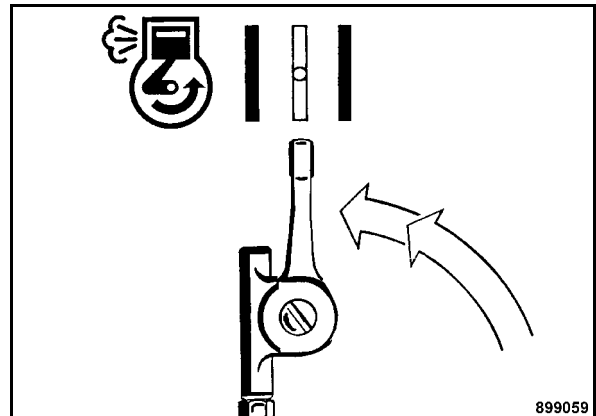

Fig. 33
- Open the choke (Fig. 33) slowly.